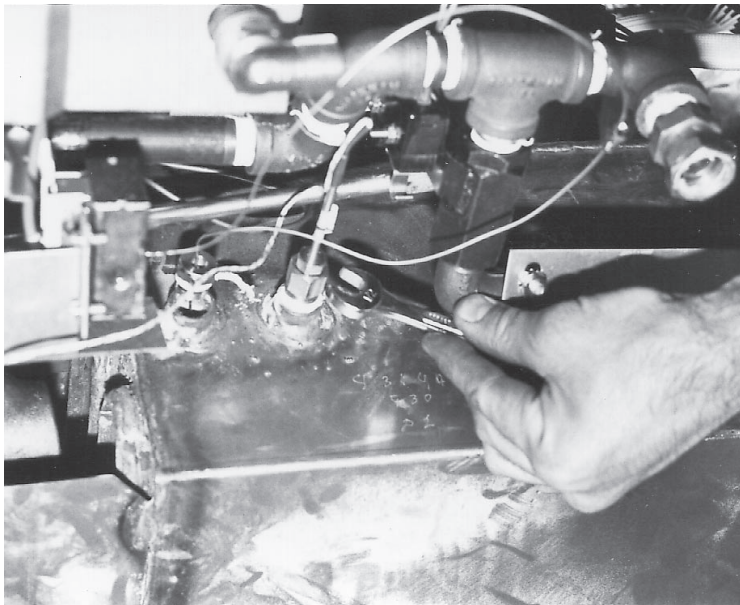

Fig. 83
21. With an 1/2" wrench remove the thermistor or thermo bulb packing nut. (Fig. 83)